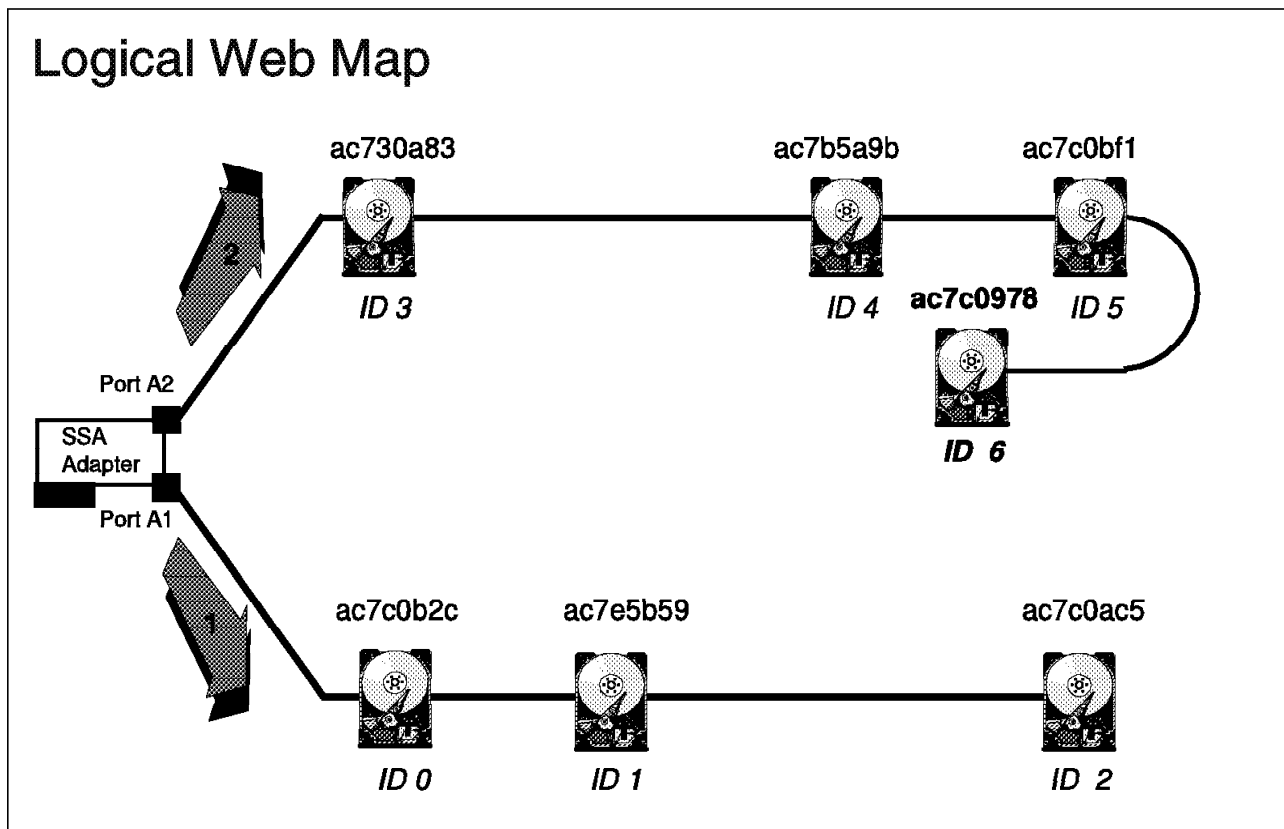

Figure 126. The New Configuration after Replacing ID 0
9. Display the configuration map (Figure 126) to confirm the result: